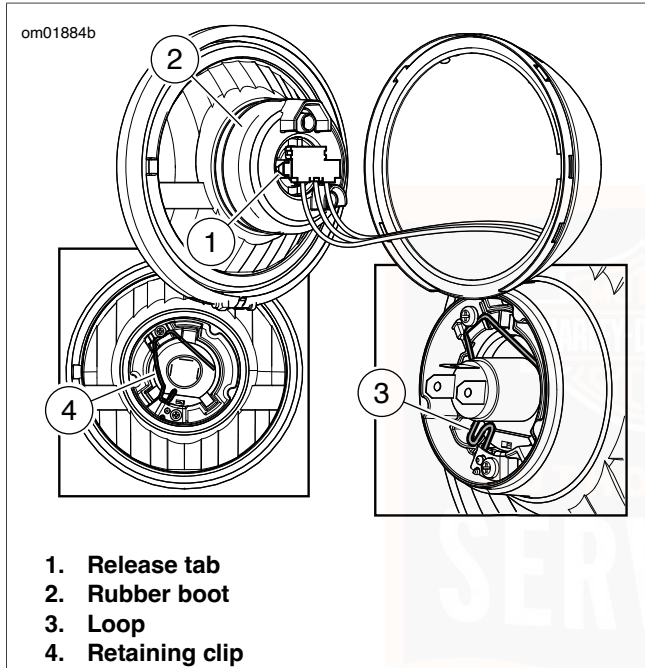

Figure 59. Headlamp
4. See Figure 59. While compressing the release tabs (1) on the connector, pull the connector off the bulb spade terminals.
5. Pull the rubber boot (2) back.
6. Press the loop (3) on the wire retaining clip (4) down and to one side to disengage the free end of the clip from the metal catch. Rotate the clip up. Remove the bulb from the lens and reflector.